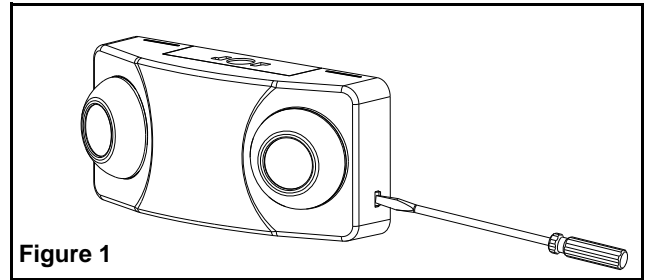

Figure 1
2. Using a flat head screwdriver, insert the blade into the slot and gently pry off the front cover (see figure 1).